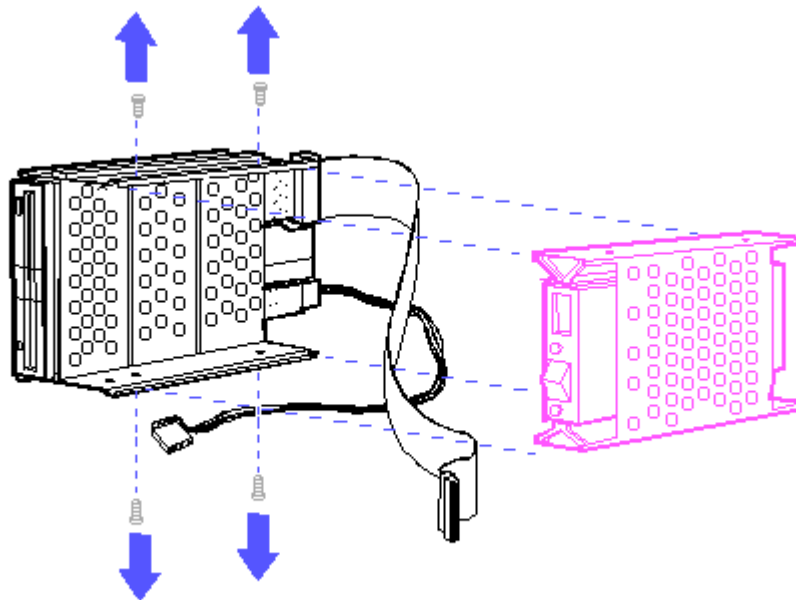

Figure 8-46. Removing the Fixed Disk Drive
7. Remove the four screws from the mass storage device subassembly and slide the fixed disk drive assembly out of the mass storage device subassembly (Figure 8-46).